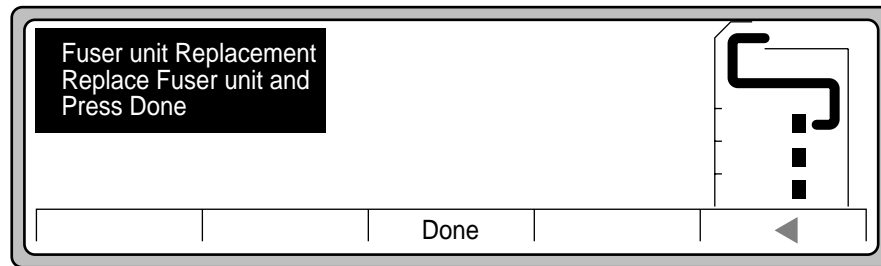

Figure 4-33 Fuser instructions
6. Press Select to display fuser instructions, as shown in Figure 4-33.